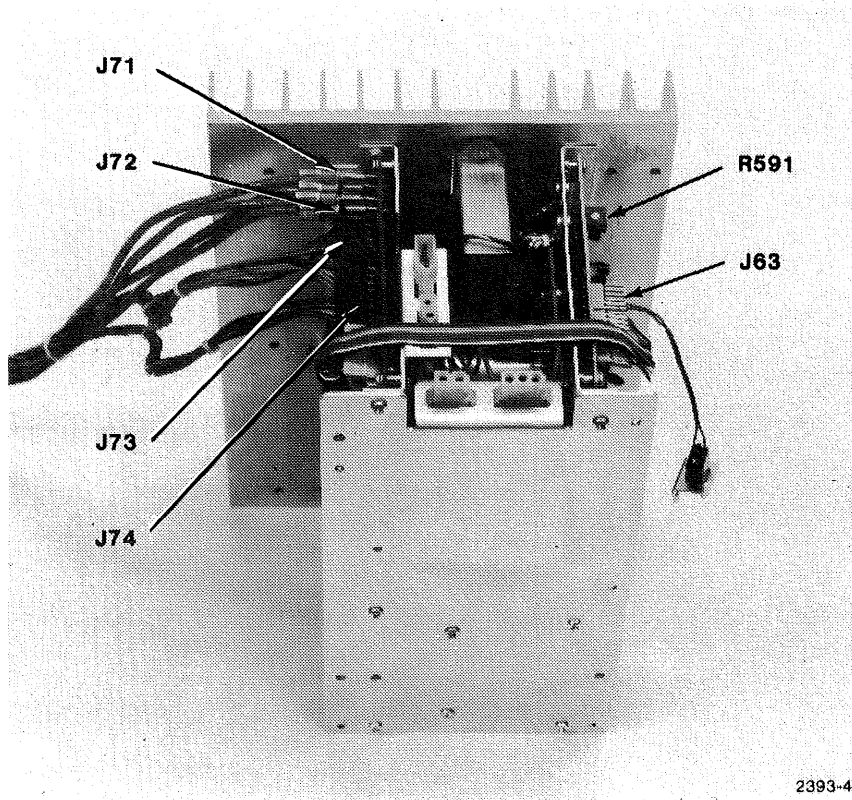

Figure 3-3. Connecting the Load Unit to the Power Supply.
7. Connect other end of the cable harness to the Regulator board on the power supply (see Figure 3-3):
6. Select Channel 5 on the ULU. Adjust R591 on the Inverter board (Figure 3-3) for a reading of 55.1 V $\pm$ 100 mV on the ULU meter.